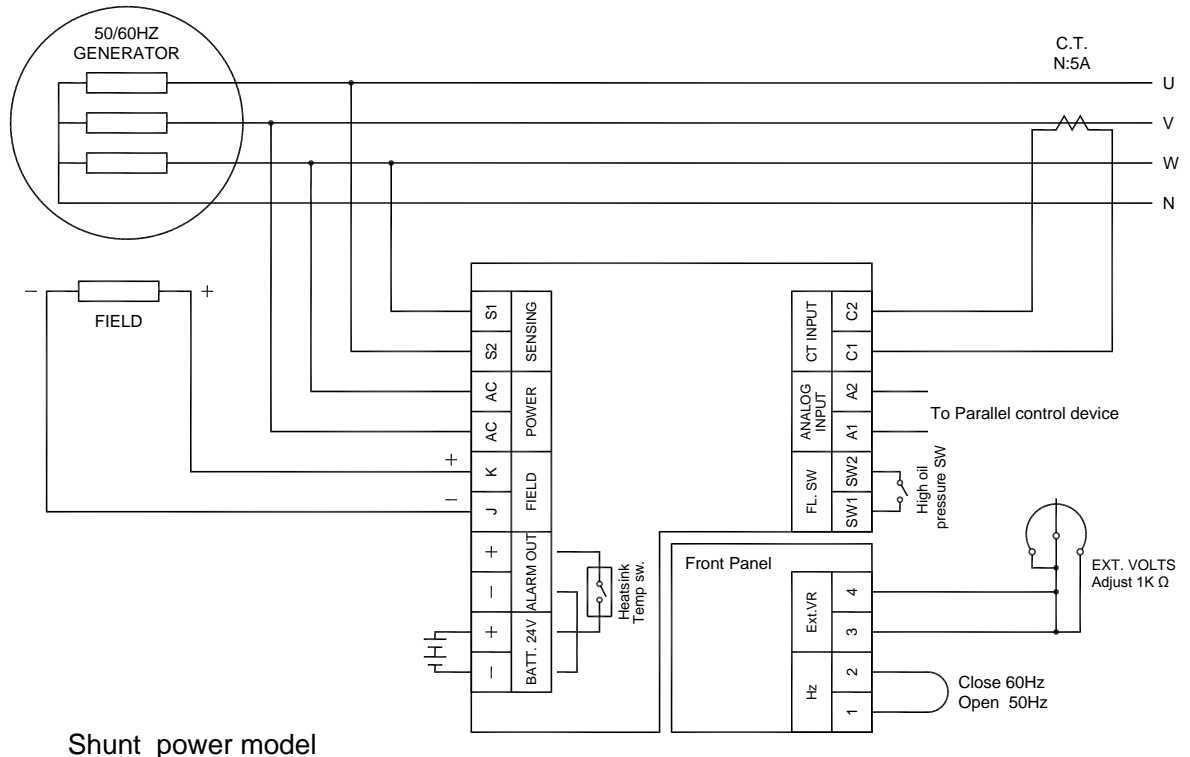

Figure 6
5.2.4 For long range external voltage adjustment, please refer to Figure 6. Use twisted wire for connection, and if distance exceeds 100 meters, please use isolated twisted only.
7.2.1 Shut down generator, disconnect the wiring between AVR and generator then flash the field. Flashing duration = 3 seconds. (See wiring in Figure 6)